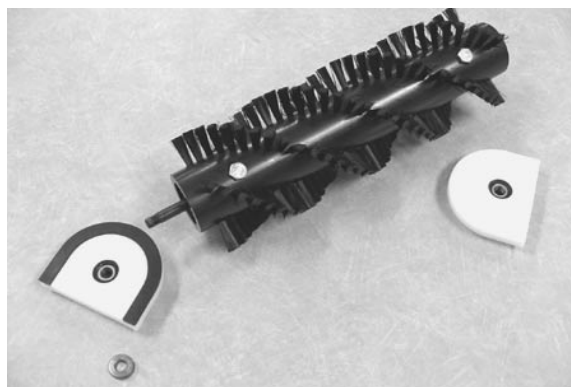

FIG. 4
4. Remove spacer and both bearing blocks from brush assembly (Figure 4).